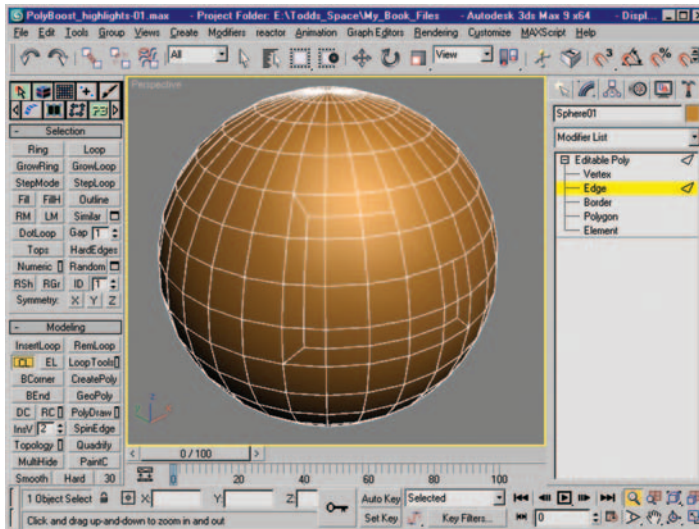

Figure 12.5 Resulting corner loop after using CL.
- Click on the CL button in the PolyBoost interface. This tool builds a corner loop into your mesh with a single click. What is a corner loop? With each direction change the PolyBoost CL function creates a Quad-based corner on the loop, hence the name. Figure 12.5 shows the resulting mesh after using CL on the edge selection.